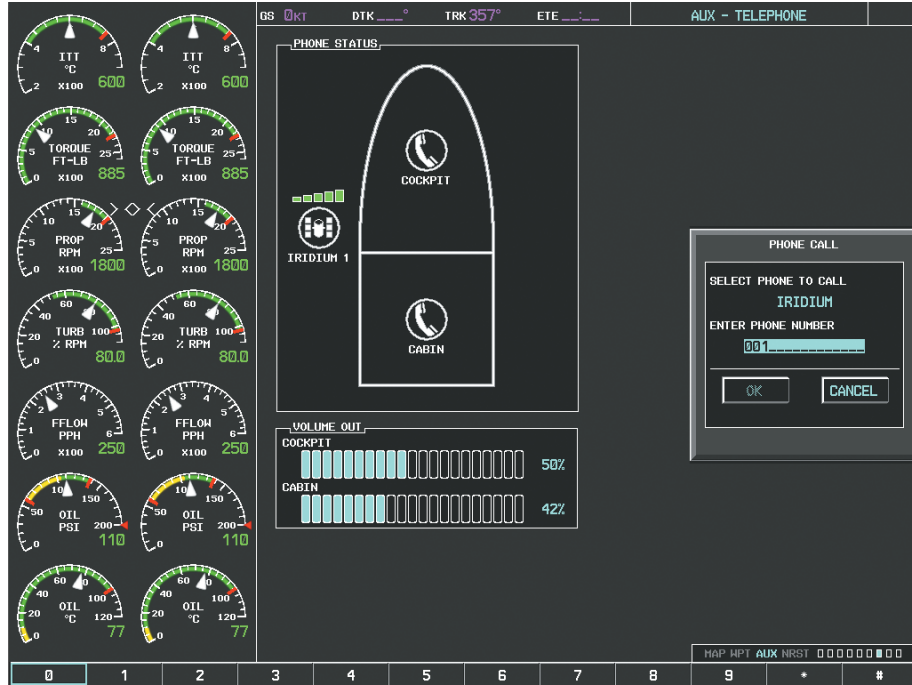

Figure 8-85 Enter Phone Number
- 4) Press the **ENT** Key. The cursor has now moved to the phone number entry field as shown in Figure 8-85.